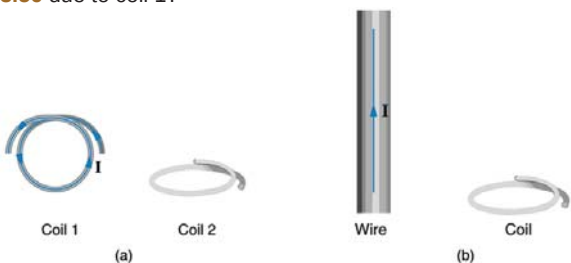

Figure 23.56 (a) The planes of the two coils are perpendicular. (b) The wire is perpendicular to the plane of the coil.
1. What is the value of the magnetic flux at coil 2 in **Figure 23.56** due to coil 1?
2. What is the value of the magnetic flux through the coil in **Figure 23.56**(b) due to the wire?